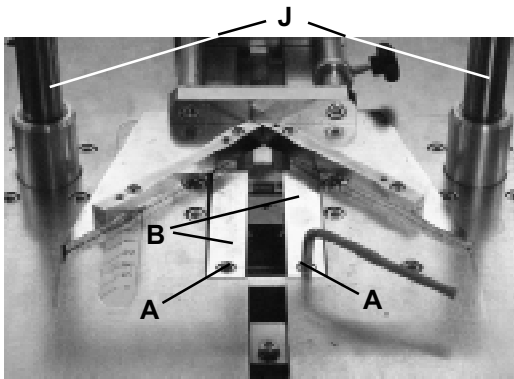

Figure 11
3. Use light oil on a cloth to wipe the **Vertical Shafts (J)** which operate the **Upper Clamp**.
- a. Remove two screws (**A**) and set the **Cover Plates (B)** aside. (Figure 11)